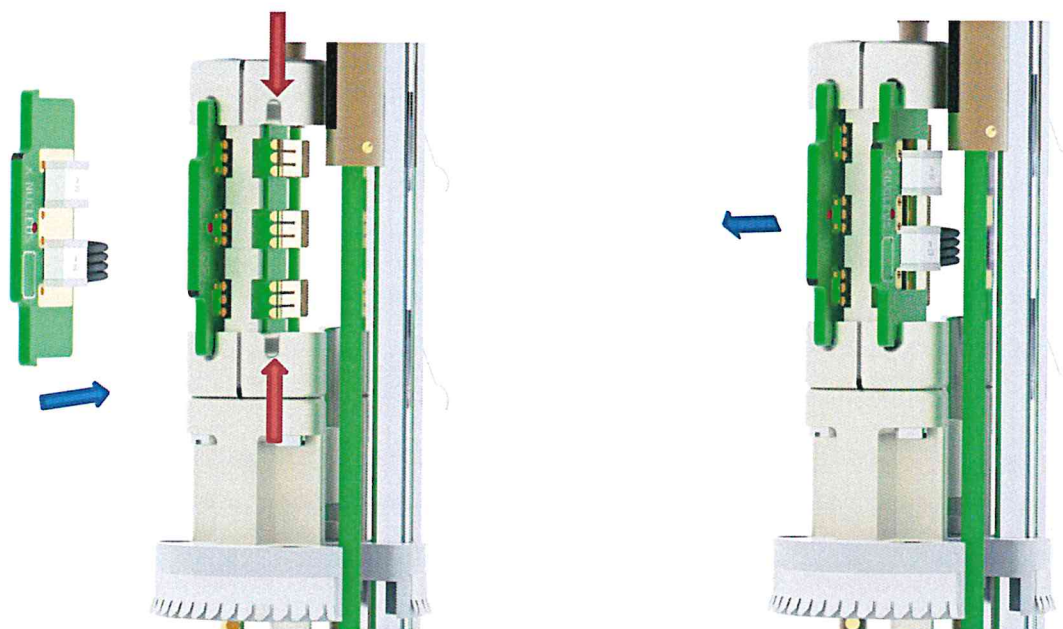

Figure: 11
1. Align the type-B insert with the grooves on the “insert base”, indicated by the red arrows in figure 11.